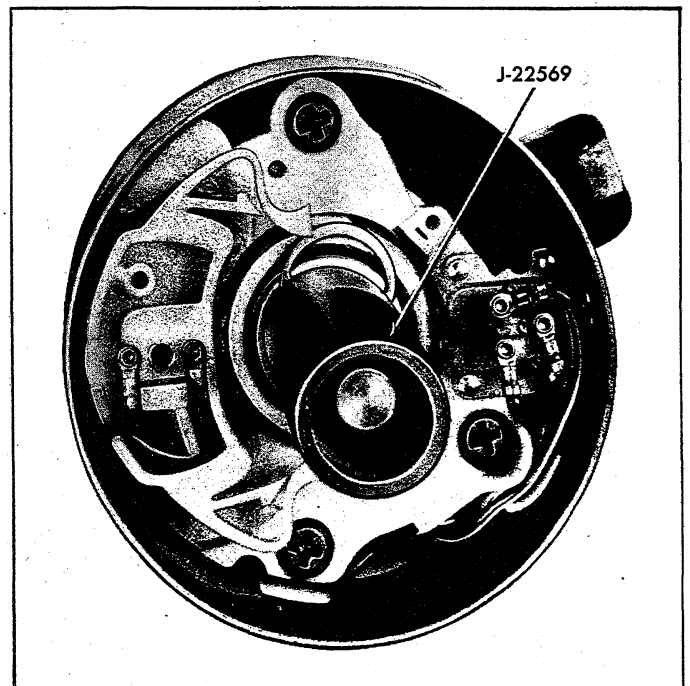

Fig. 50—Removing "C" Ring Retainer Using Tool J-22569
5. Remove "C" retaining ring from upper steering shaft using snap ring remover Tool J-22569 (fig. 50). Remove thrust washer and wave washer.
12. Complete installation of "C" retaining ring using snap ring installer Tool J-22659 as shown in Figure 50. Be sure retaining ring is completely seated into steering shaft groove.